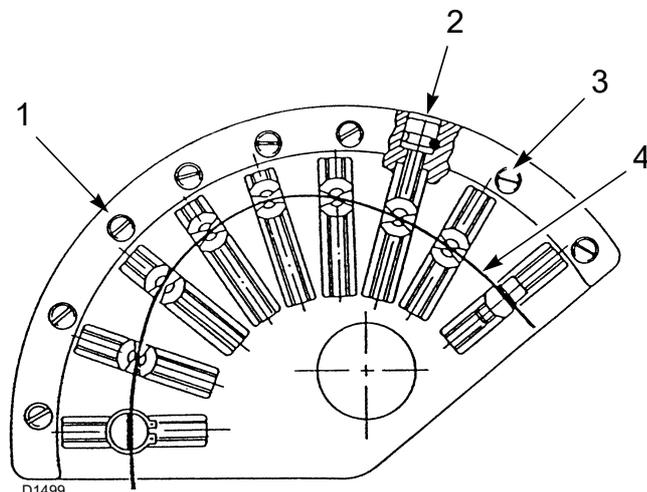

Fig. 33
- Proceed with calibrating the air output by adjusting the variable profile cam, using the screws 2)(Fig. 33)(cam 1 Fig. 35).
- With the optimal adjustment achieved, remember to lock the adjustment screws of the cam profiles by means of screws 3)(Fig. 33).
For better adjustment repeatability, take care to stop the rotation of the cam unit when the upper bearing that slides on the profile 4)(Fig. 33) is aligned with one of the adjustment screws 2)(Fig. 33).
Screw in or unscrew the pre-set screw 2)(Fig. 33) to increase or decrease the air output so that it comes into line with the corresponding light oil output.
After the output adjustments (maximum, minimum and intermediate), it is important to lock all the air adjustment screws 2)(Fig. 33) using the locking screws 3)(Fig. 33) so as to avoid possible movements from the of air - light oil calibration positions.
Key (Fig. 33)